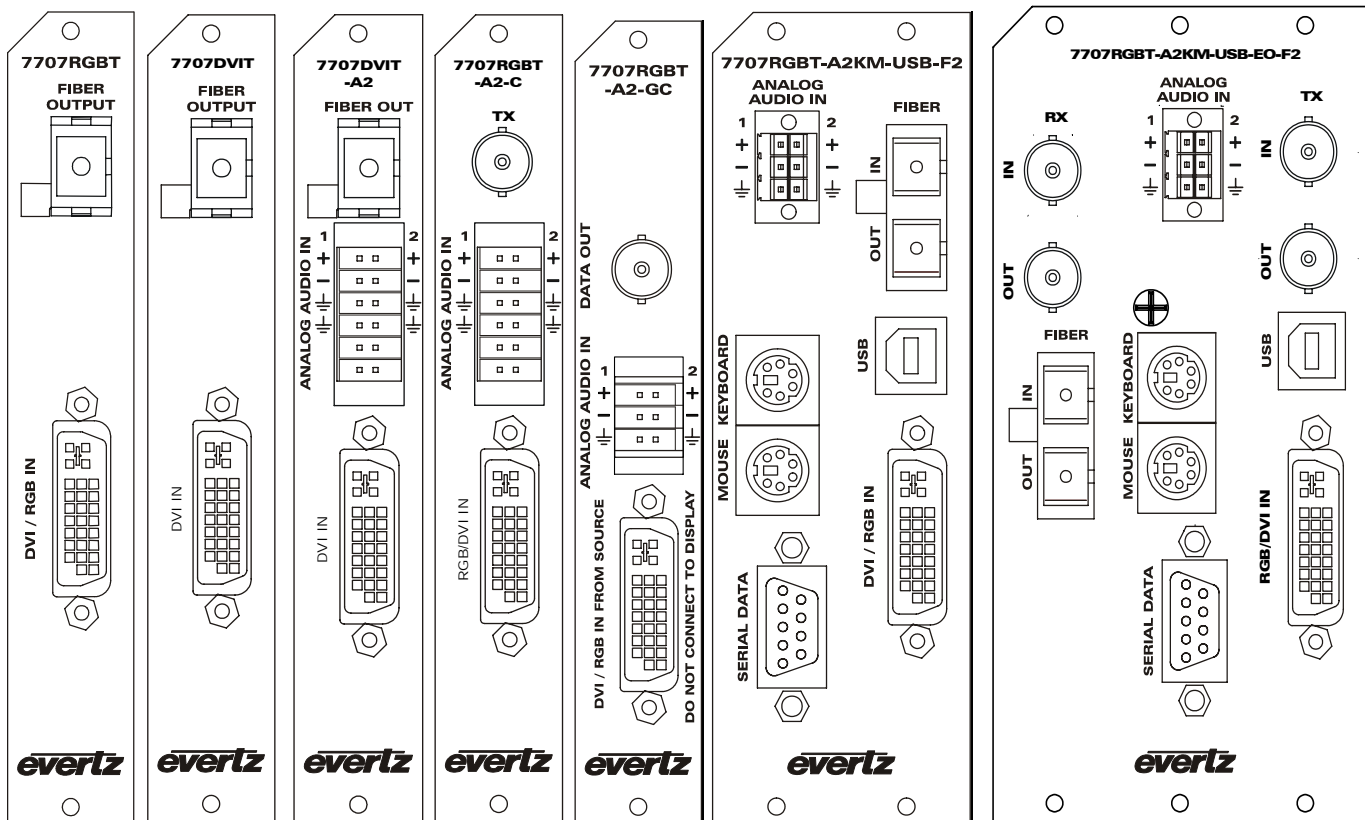

Figure 2-1: 7707RGBT/DVIT Rear Plates
1.4	Added 7707RGBT-A2-GC rear plate to Figure 2-1. Added tables to Section 4.